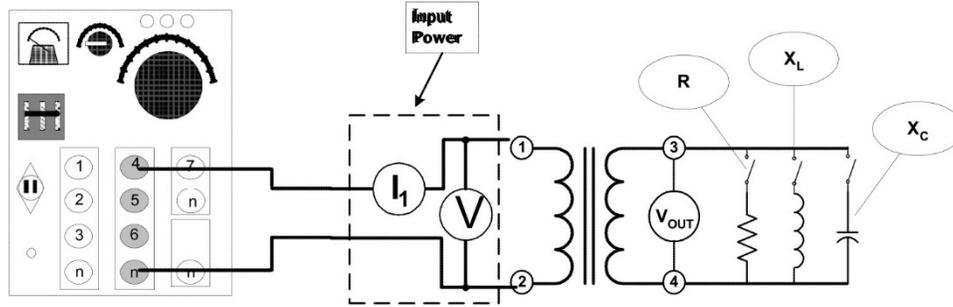

FIGURE 4.21
- Step 8: Connect the circuit shown in Figure 4.21. Notice that the three types of load are paralleled connected.